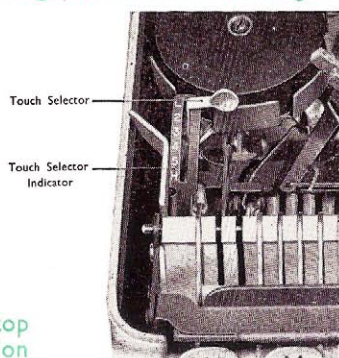

Figure 3
**Touch Selector** (Fig. 3). Located beneath the top cover plate, this lever can be set to the position which gives you the key tension you prefer.